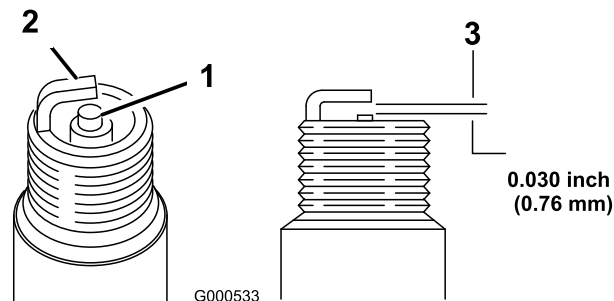

Figure 35
1. Inspect the spark plug (Figure 35).
2. Check the gap between the center and side electrodes (Figure 35).